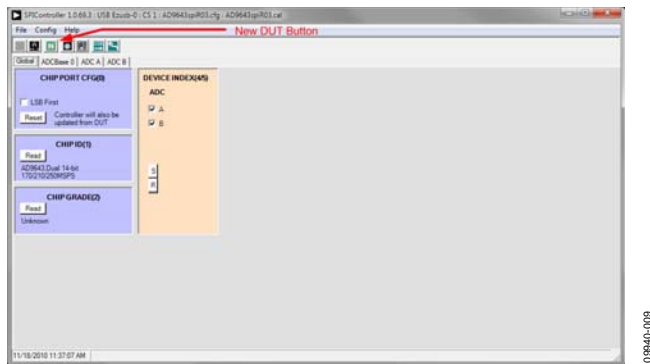

Figure 9. SPI Controller, New DUT Button
- Click the **New DUT** button in the **SPIController** window (see Figure 9).